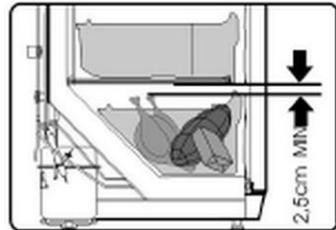

Fig. 6
4. Maintain a minimum clearance of 2.5 cm between products to be frozen and the top wall (Fig. 6).